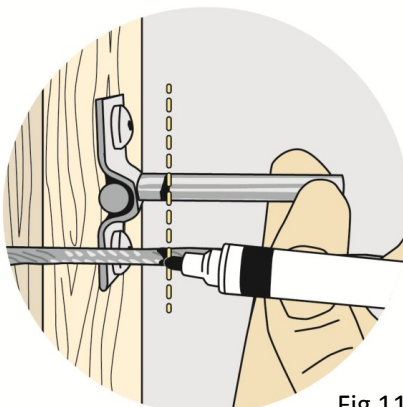
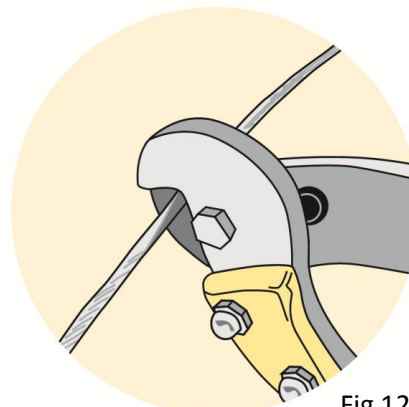

Fig 11
Fig 12
- b) Pull all slack out and hold cable adjacent to the Surface Mounted Fitting and mark the cable where it matches mark on the fitting (Fig. 11). Cut cable to its final length (Fig. 12).